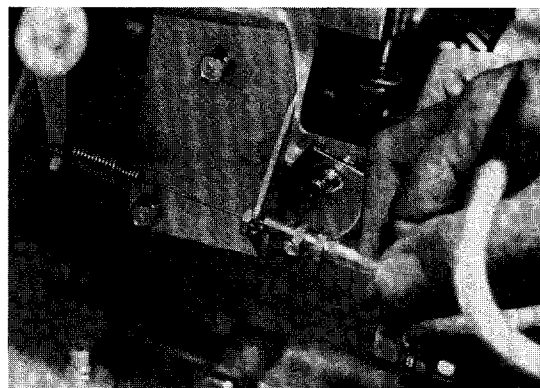

Figure 7-16
5. Loosen cable housing retaining nut on spring end of cable. Pull cable housing out of bracket and slide cable through the slot in bracket (**Figure 7-16**).
4. Pull on cable housing and slide cable through slot in cable bracket (Figure 7-16). Lock retaining nuts on throttle cable with equal length of thread on inside and outside of retaining nuts.